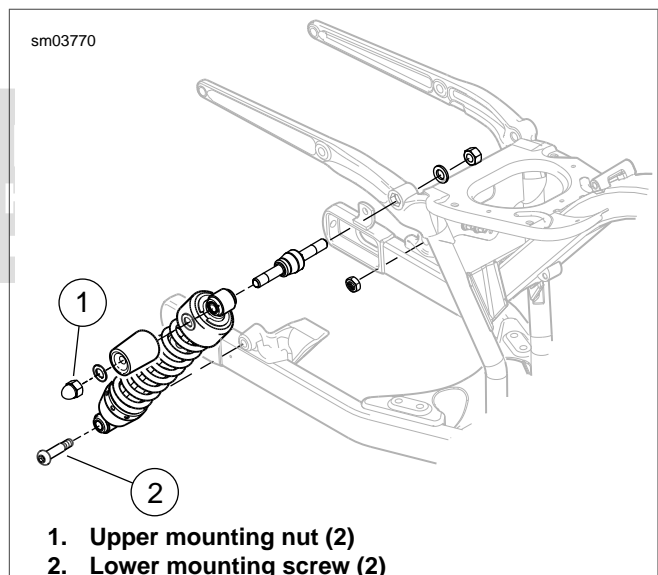

Figure 2-11. Rear Shock Mount
6. See Figure 2-11. Loosen, but do not remove, left and right **upper** mounting nuts (1).
7. Remove left and right **lower** shock mounting screws (2).
7. See Figure 2-11. Attach rear shocks.
- a. Apply two or three drops of LOCTITE THREAD-LOCKER 243 (blue) to threads of lower shock mounting screws (2).
- b. Lift rear fork and install both shock absorbers with lower shock mounting screws (2).